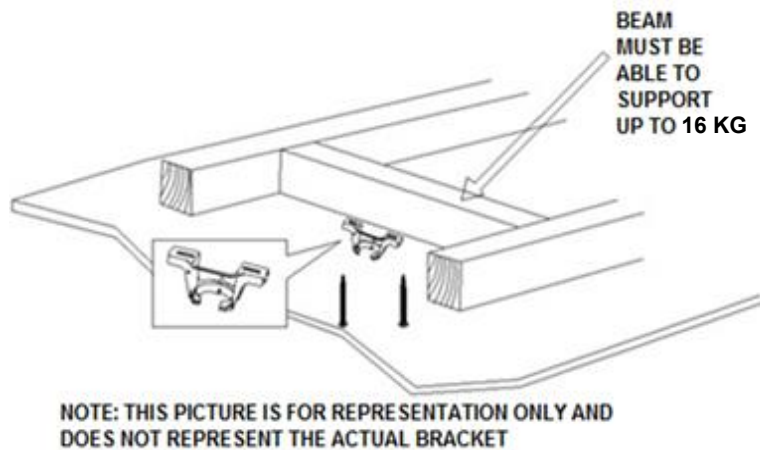

Fig. 2
- Install the hanging bracket to the ceiling joist or structure that is capable of carrying a load of at least 16kg, with two long screws provided. Ensure at least 30mm of the screw is threaded into the support. (Fig. 2)